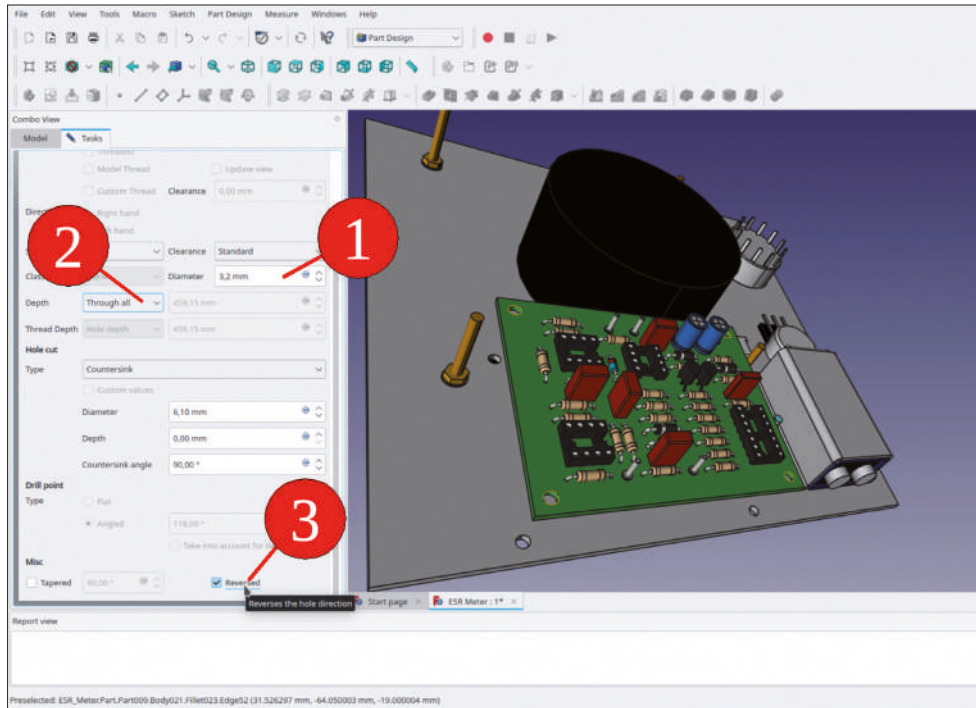

Figure 7-64
8. In the task window, set the diameter to 3.2 mm, select for the depth 'Through all', and check the 'Reversed' checkbox (Figure 7-64). Close the task window with the 'OK' button.